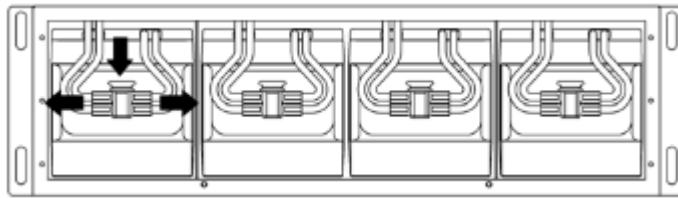

FIG. 4
14. Press down to unlock the battery connector holders, one on each battery module. (FIG. 4)
15. Disconnect the battery connectors (red and black) one on each battery module. (FIG. 4)
16. Grasp the battery pull tabs and gently pull the battery modules out of the battery pack one at a time and set on the floor. (FIG. 4)